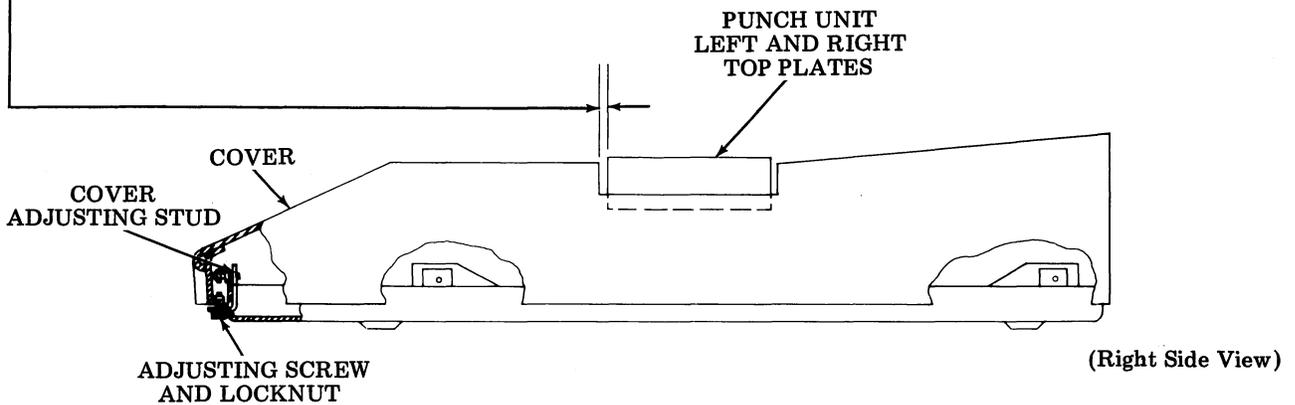

Figure 9 - Cover/Punch Unit Top Plates Adjustment
2.10 Replace the cover assembly on the Typing Reperforator Set by reversing the procedure in 2.04 steps (a) through (d). When the cover is in place, and the adjusting screw, lockwasher, and nut are reinstalled, check the cover adjustment, Figure 9. (Cover should self-adjust unless cover adjusting stud is maladjusted.)